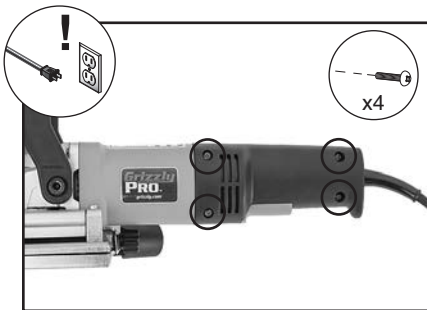

Figure 28. Location of main handle fasteners.
2. Remove (4) tap screws from left side of main joiner handle (see **Figure 28**), and separate both sides of handle.